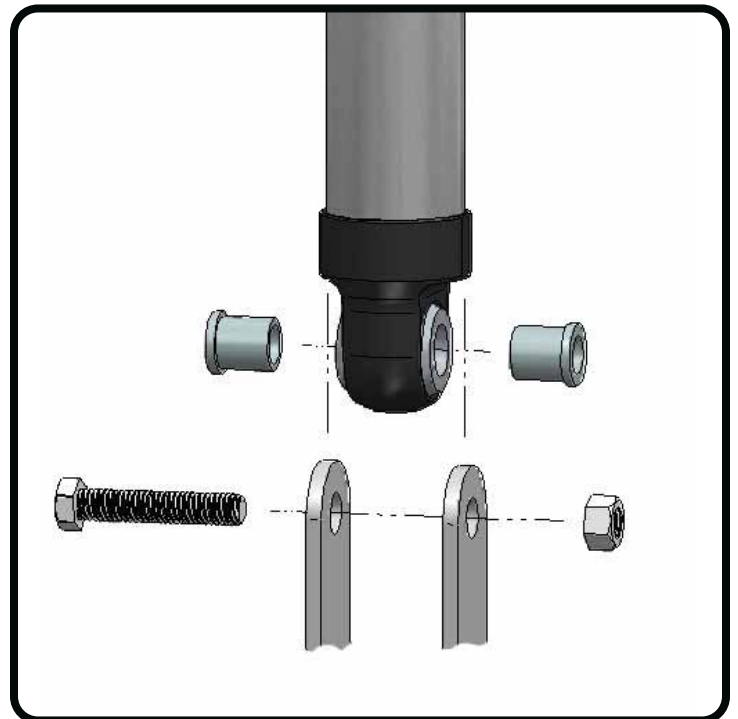

Figure 2
6. Attach the eyelet to the OEM frame mount. Use the OEM hardware to attach the shock (Figure 2).